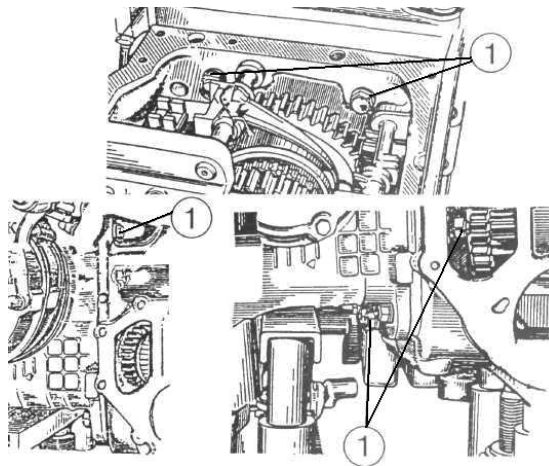

Figure 4.54
f) unscrew bolts 1 (Figure 4.54) and nuts for fastening gear box to rear axle body and clutch coupling body. Disconnect GB from clutch body and rear axle.